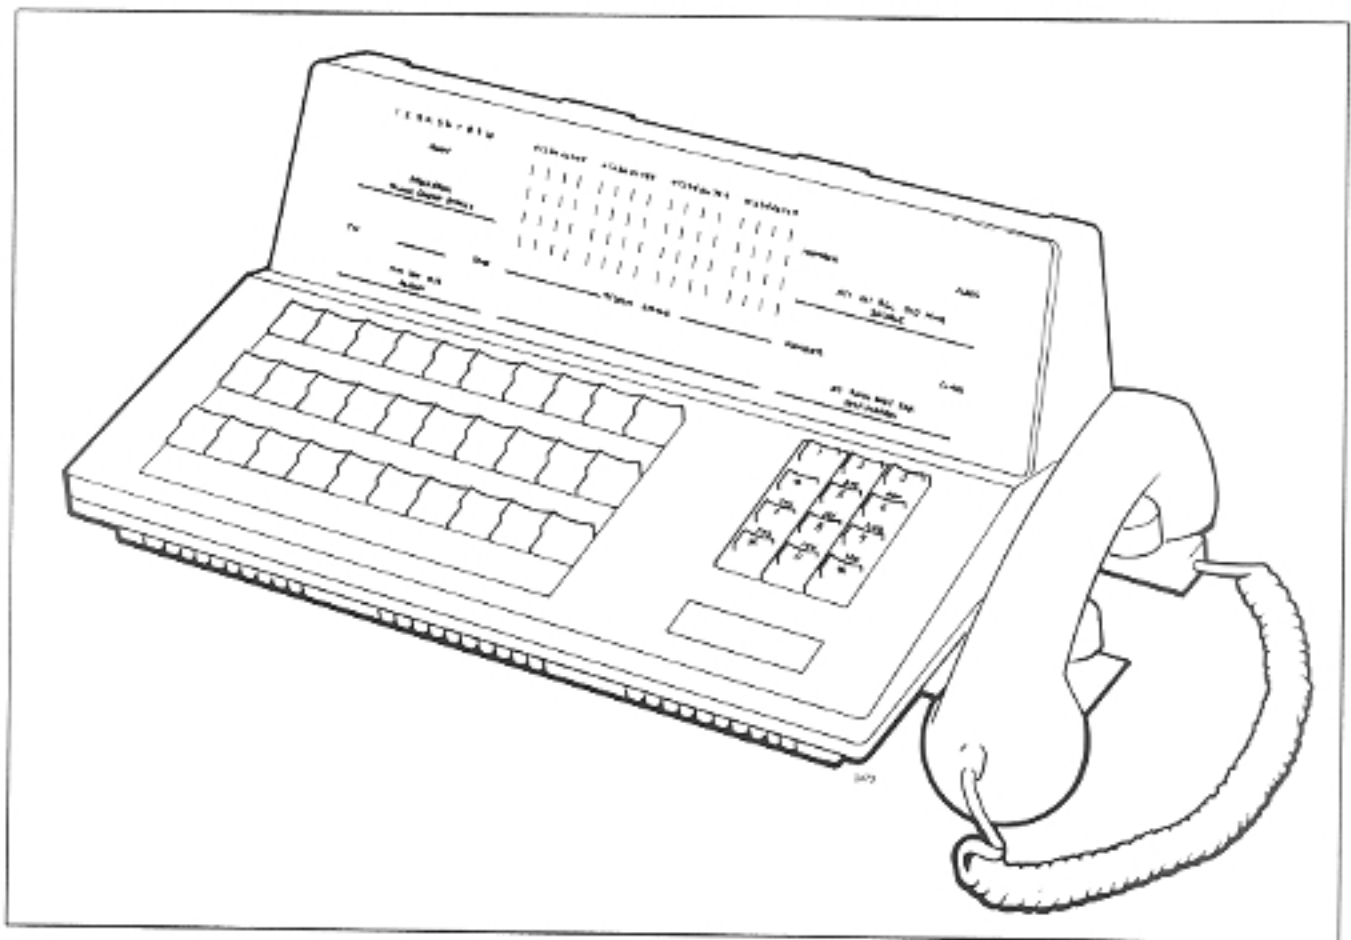

Fig. 4-3 Attendant Console
**4.06** The layout of the SX-100/SX-200 attendant console is shown in Fig. 4-3. The three rows of buttons on the console faceplate are used to select and handle calls. Each button has a light emitting diode (LED) associated with it to indicate the operational status of the button.